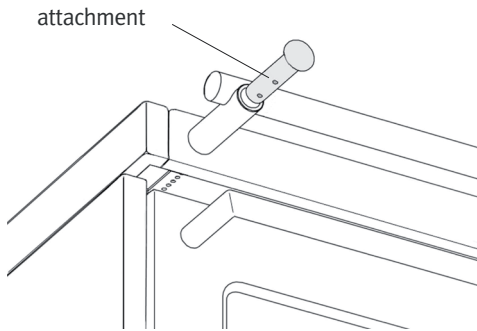

Figure 5
- ⇒ Slacken the Allen screws of the operating handles (bottom) slightly and unscrew to reach the required stove frame position (Figure 5).